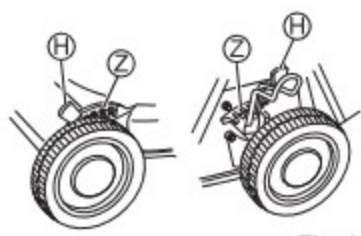

Fig. 9
2. Lean the mowing height adjustment lever (H) toward the wheel side, separating from the notches (dents) (Z). (See Figs. 9 and 10)
3. Insert the mowing height adjustment lever (H) into the notch (Z) for the target height with the lever kept leaned.
4. Insert all Mowing height adjustment levers (H) into the notches (Z) of the same height.